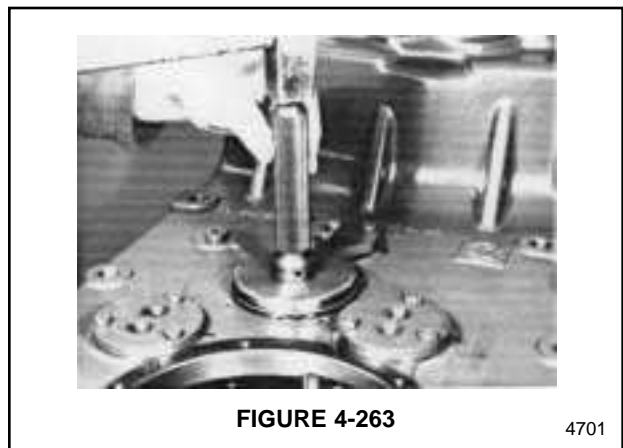

FIGURE 4-263
4. For transmissions that are not equipped with an emergency steering pump, apply Loctite to the bore plug and use a bearing driver to install the plug into the bore. See Figure 4-263.